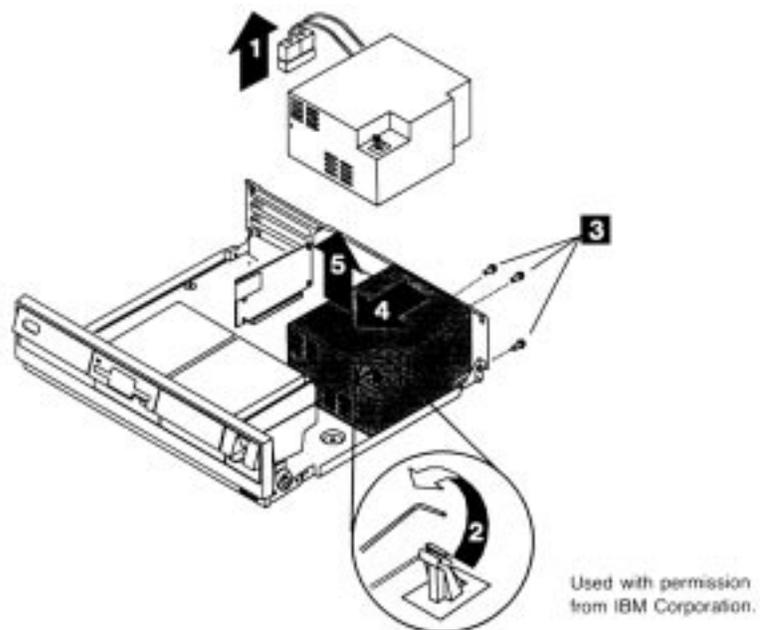

Fig. 3.24
5. Lift the power supply up and away from the unit (see fig. 3.24).